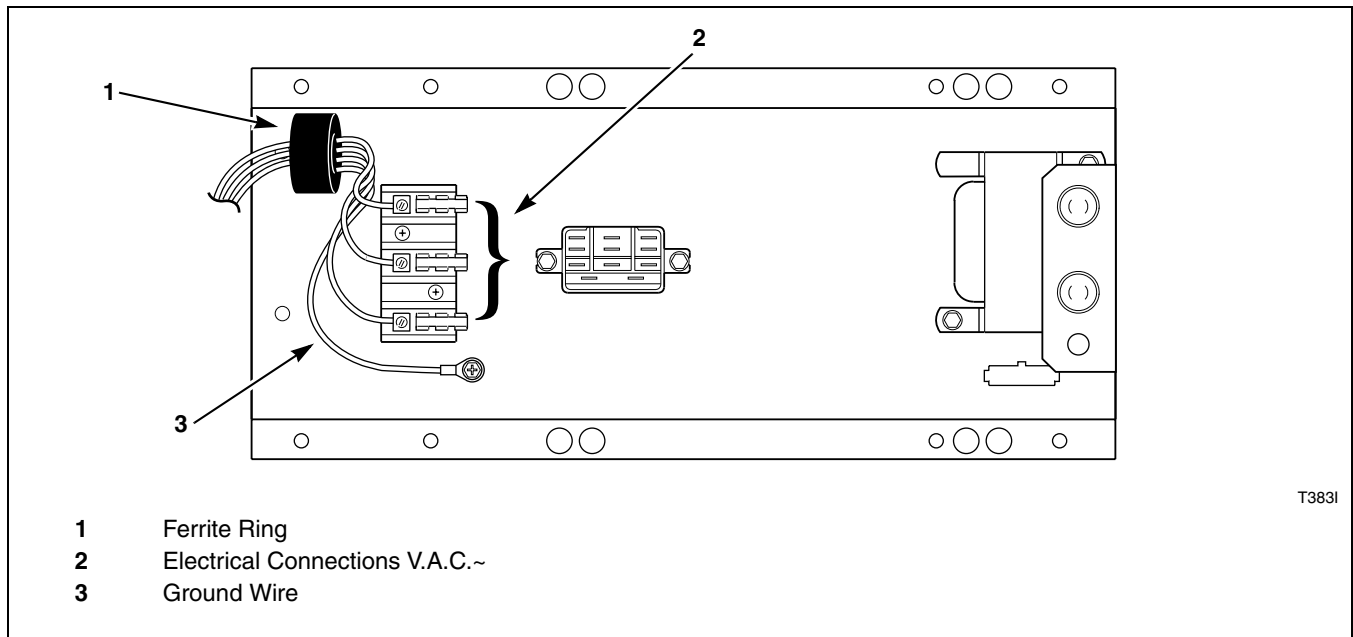

Figure 14
2. Snap the ferrite ring closed over all of the service leads inside of the control tray as shown. It is important that the ferrite ring be installed inside the control tray. Refer to *Figure 14*. Do not install the ferrite outside of the box or other area. Make sure that service leads are in the center of the ferrite before closing the ring so as not to pinch or damage leads.